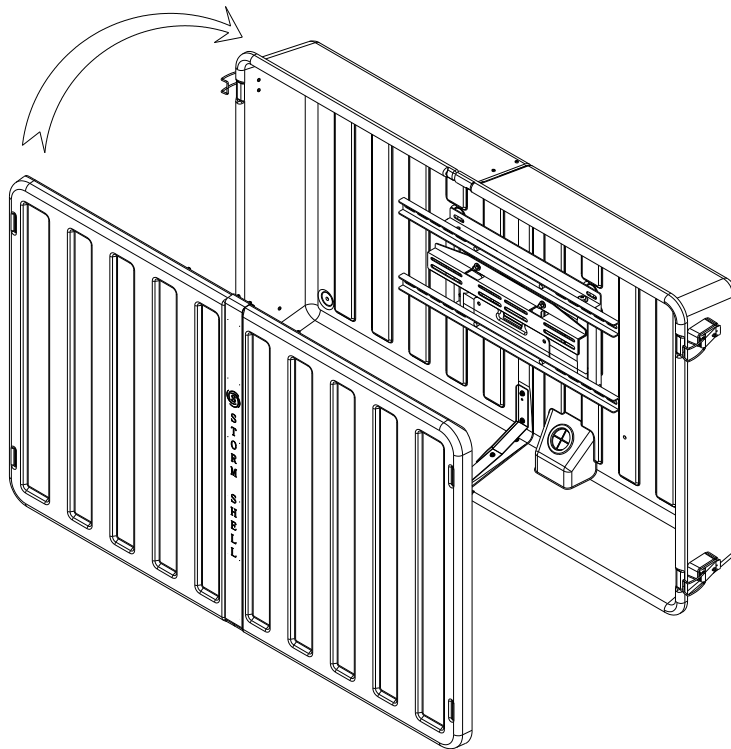

Figure 14
7. Install the Storm Shell Front and check that cover and latches fit correctly. Figure 14.